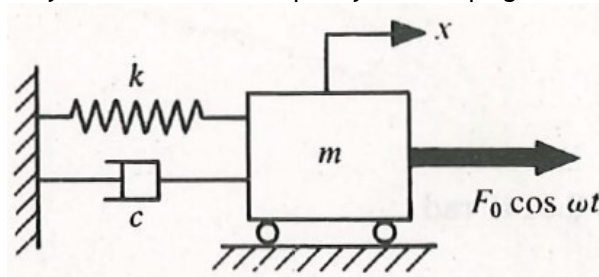

Figure 1
- Q.1(a) A spring-mass-damper system is subjected to a forced excitation as shown in Figure 1. For steady-state solution, derive the expression of amplitude and phase difference of the system in terms of frequency and damping ratio. [5] CO 1 BL 6